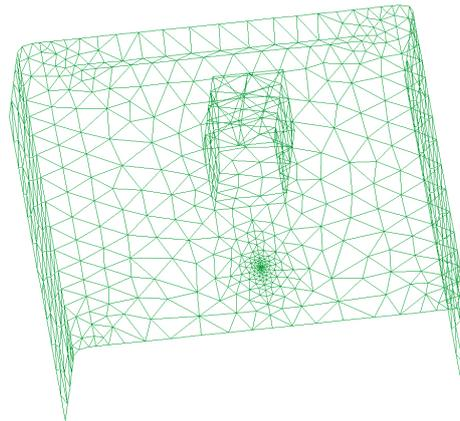

Figure 5. The mesh with a concentration of elements around the point.
- 6 . A concentration of elements appears around the chosen point, given the selected size (0.1) of these elements (see Figure 5).